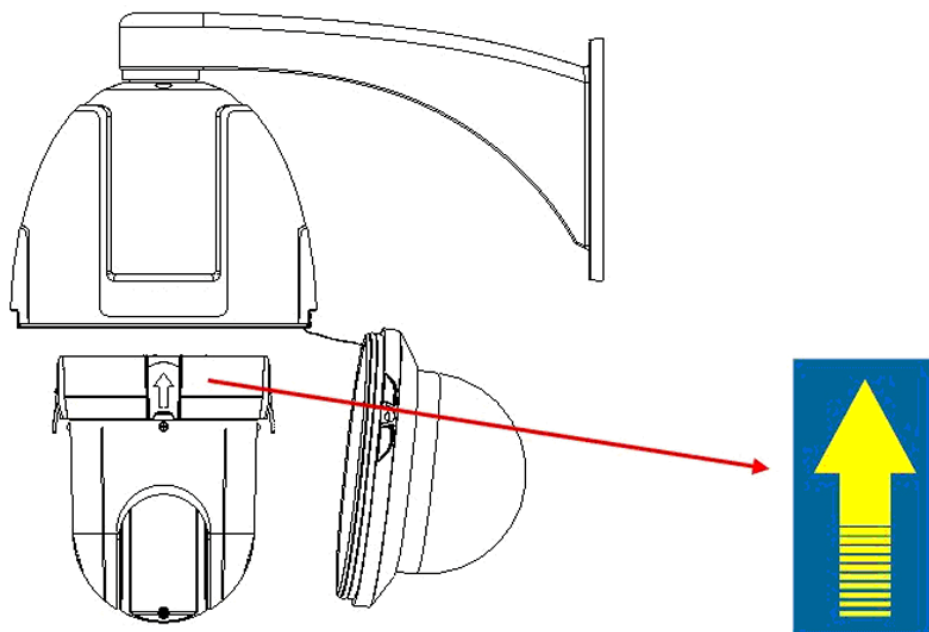

Figure 1.4.6 Install Dome Drive
Step 5: Install the dome drive as shown in Figure 1.4.6, align the tabs on both sides of the dome drive with the corresponding arrow labels on the back box to snap the drive into the back box firmly.